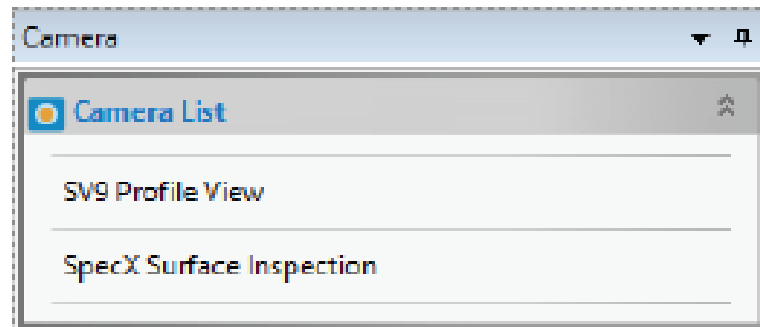

Figure 4. Camera Selection
1. Select the microscope to be used (see Figure 4). Please note only one camera can be run at a time. The camera view must be closed out to switch views. To close current view, press CTRL+W or right click the live view tab and close.